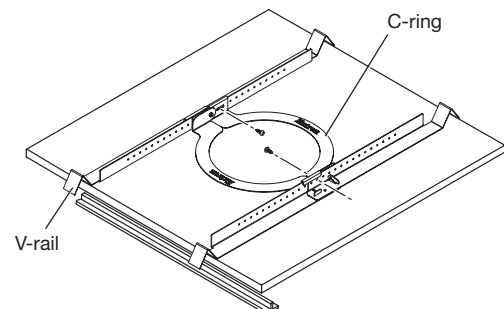

Figure 2. Secure the C-ring to the V-rails
- c. Place both assembled V-rails on the cut ceiling tile and position them equally on either side of the hole. The ends of the V-rails go over the ceiling grid, as shown in figure 2.
- e. Secure the C-ring to the V-rails using two screws (see figure 2).